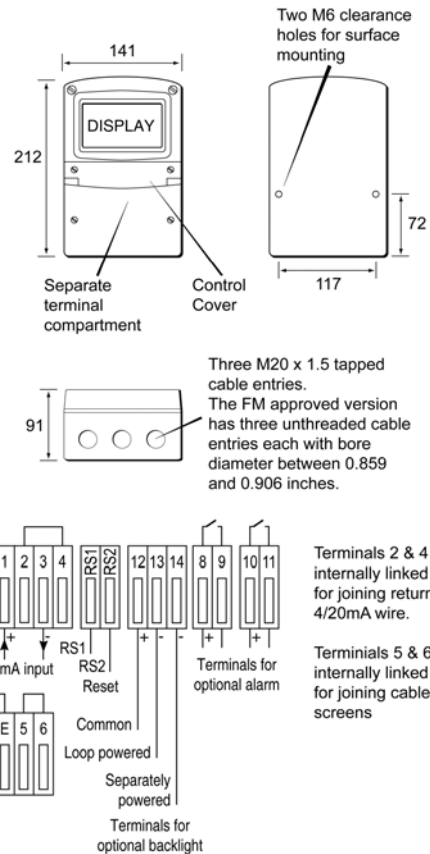

Fig 5 Dimensions and terminal connections
4. Connect the field wiring to the terminals as shown in Fig 5 and replace the instrument terminal cover. Evenly tighten the two 'A' screws.